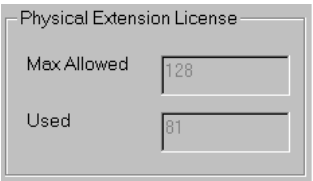

Figure 2-5. Physical Extension License group box
- **Physical Extension License** group box - Open the **Add New Extension** option in the **General** page of the **Extension Configuration** screen. In the **Physical Extension License** group box (Figure 2-5), the maximum number of installed physical extensions for the system is displayed in the **Max Allowed** box; the total number of assigned physical extensions are displayed in the **Used** box.